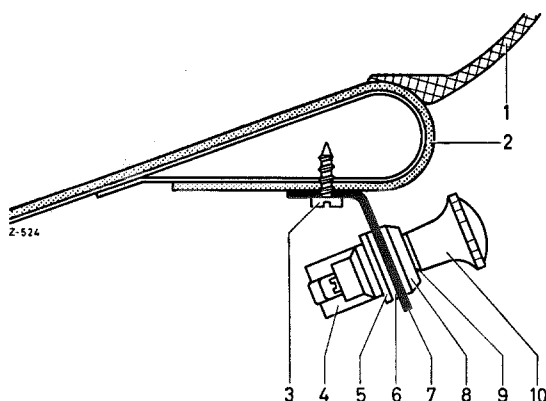

Fig. 54—15/2
2. Bore out the hole of the bracket (7), for fixing the push-pull switch (4), to 13 mm diameter (Fig. 54 — 15/2).